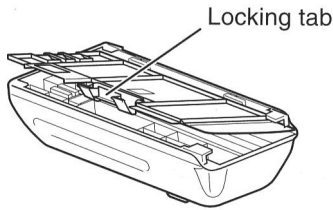

Figure 4.5
1. To open the battery case cover, Push on the locking tab, then pull the cover (Figure 4.5).